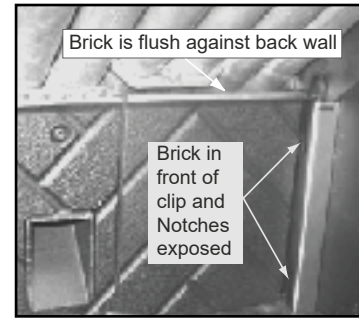

Figure 26.4
3. Reinstall bricks in reverse order ensuring that the bricks are flush against the back wall of the firebox (**Figure 26.4 and 26.5**).